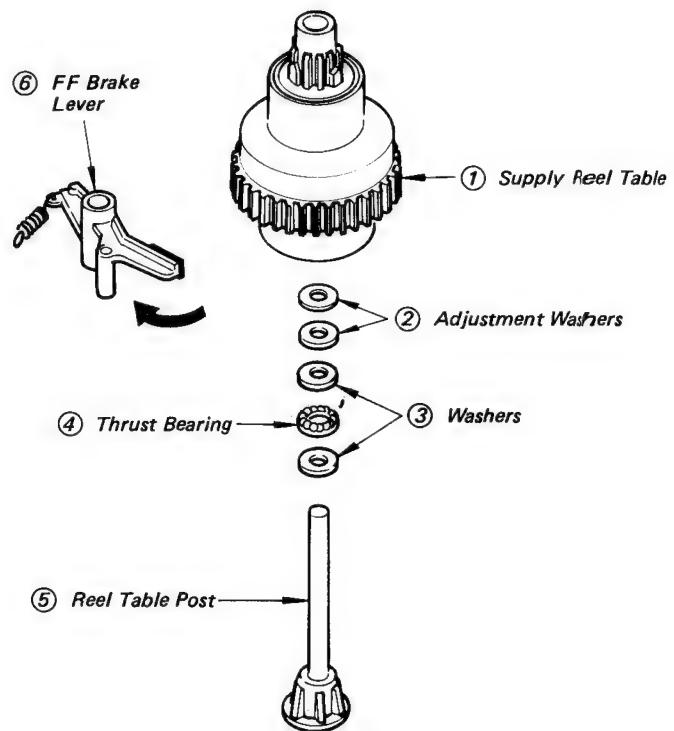

Fig. 5-38 Supply Reel Table Removal
### 10-2. Adjusting (Refer to Figs. 5-38, 43)
6. Turn and hold the FF brake lever ⑥ in the arrow direction (↙) (see Fig. 5-38).
7. Lift the supply reel table ① straight up for removal.
- CAUTION:** 1. In lifting the supply reel table ①, special care must be exercised not to bend nor break the band brake.
8. Take out any of the adjustment washers ②, washers ③, and thrust bearing ④, if stucked by oil, from the bearing of the supply reel table ①.
9. Wipe the reel table post ⑤ to clean using isopropyl alcohol.
10. Wait for the reel table post ⑤ to dry, and then apply a few drops of oil to it.